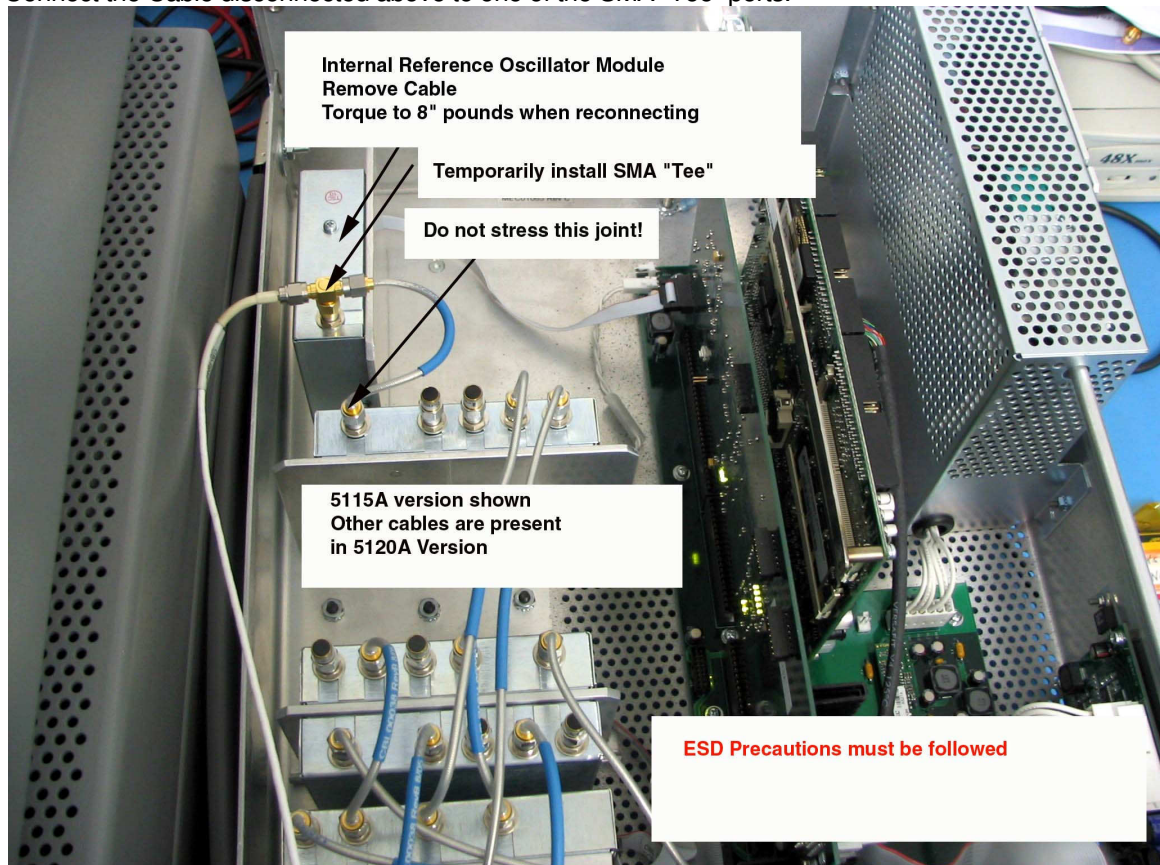

Figure 2 – Main Reference Oscillator Tuning Range Test Configuration
Note: Figure 2 depicts a TSC 5115A.
- Remove the Instrument's cover ,and configure the Instrument as shown in Figure 2 using the following instructions: